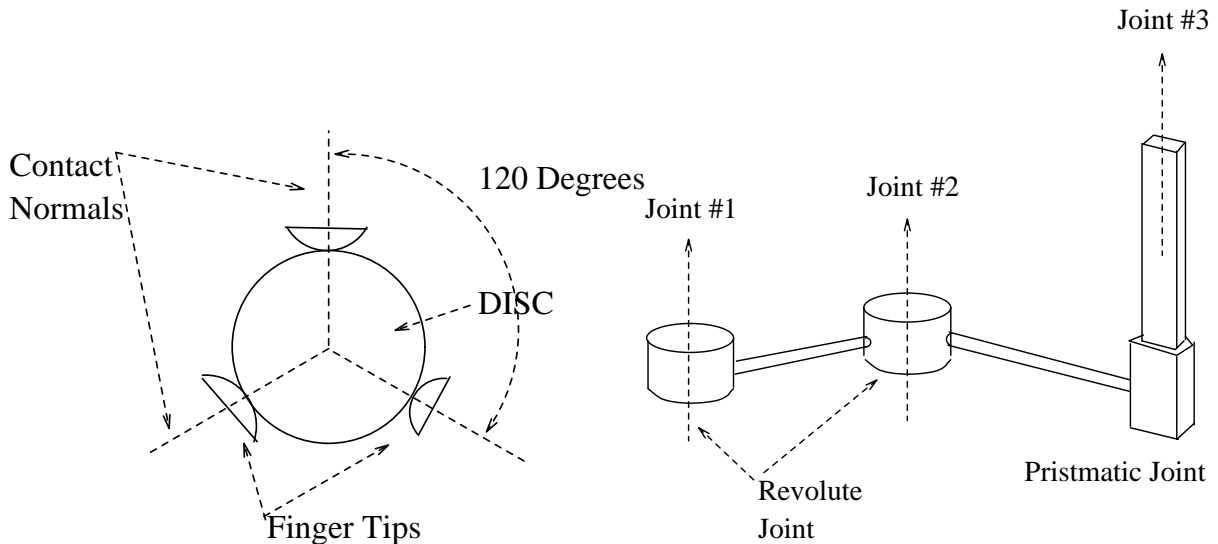

Figure 1: (a) Grasp of a disc by frictionless fingers (b) Schematic of a “Cylindrical Manipulator”
**Problem 5:** (15 points) Next quarter we will extensively study the problem of grasping—i.e., how one can grab an object with fingers in such a way as to prevent the grasped object from slipping out of the grasp. Consider the arrangement in Figure 1(a) where a planar disc is touched by 3 “planar” fingers. Assume that each finger touches the disc with *frictionless* point contact. Also assume that each finger can apply any possible force to the object.
**Problem 6:** (15 points) Figure 1(b) shows a schematic of an 3-jointed “cylindrical” robot manipulator. This manipulator consists of two revolute joints (joints #1 and #2) and one